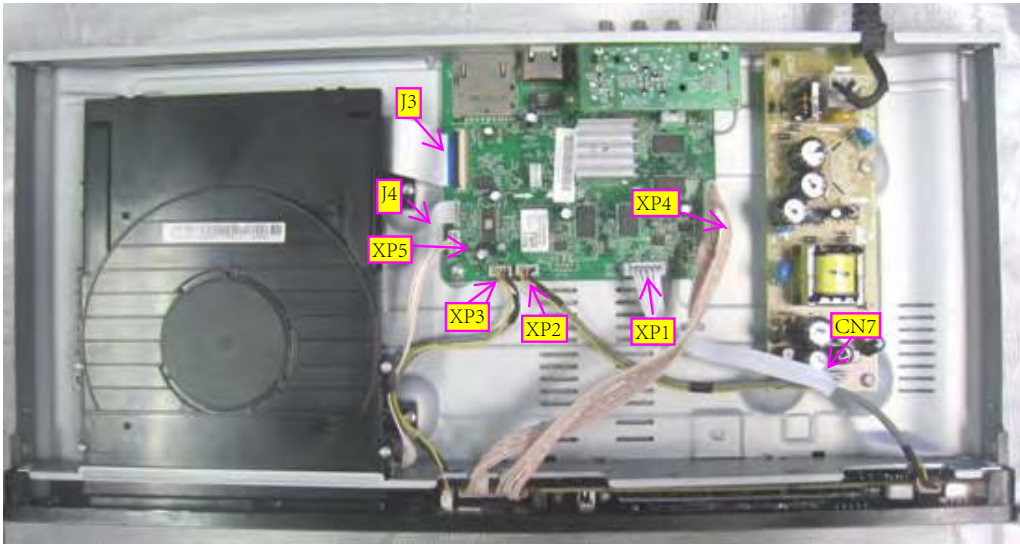

Figure 3
Step5: Dismantling Loader, disconnect the 3 connectors (XP5, J3, J4)(Figure 3) aiming in the below figure, and remove 4 screws that connects the loader and the bottom cabinet. (Figure 4-5)